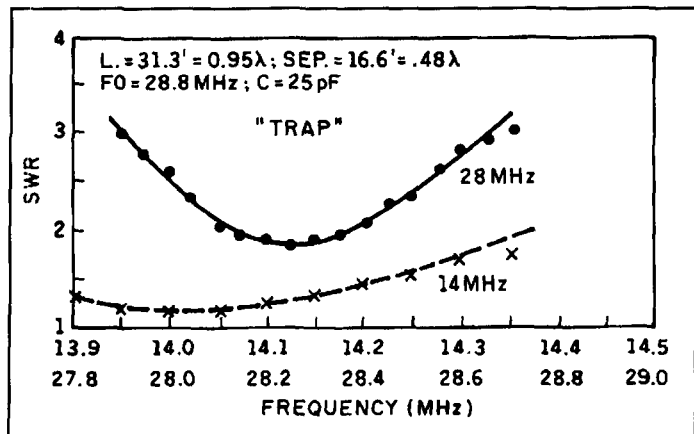

Figure 4. SWR as a function of frequency for antenna D, which closely conforms with the "trap" design (see Table 1).
**Antenna D.** See Figure 4 for a plot of SWR versus frequency. This conforms with the “trap” or “classic” design as close as is practical. Traditionally, the total length should be equal to the half wavelength at FL, which in this case would be 1.0 FU wavelengths. However at FL, as discussed in Part II, the resonator in practice produces a small inductive reactance rather than the ideal short circuit. To compensate, the total length must be reduced slightly. In this case, it is 0.95. There is a discrepancy between the theoretical and experimental values of the resonator capacitances. As explained in Part II, this design has an instabil-